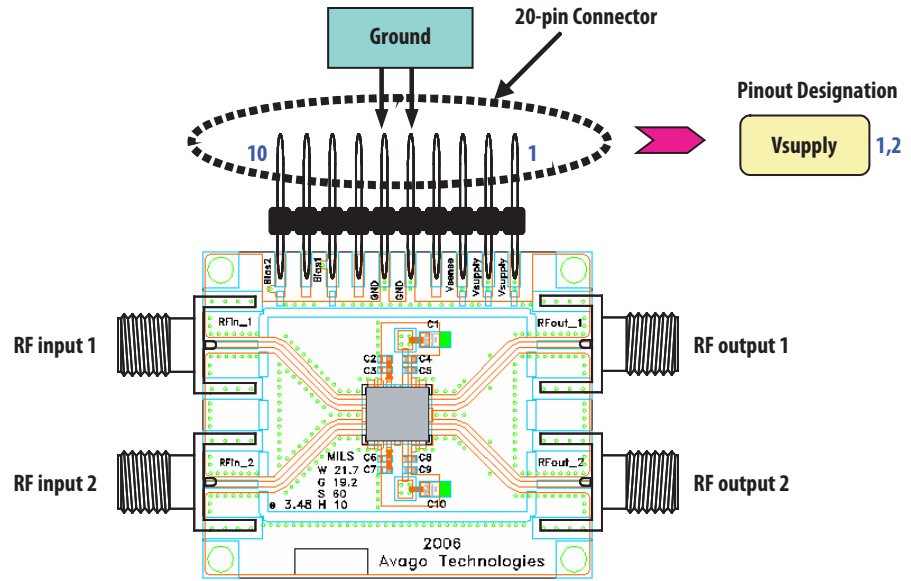

Figure 5. Demo Board Layout Diagram
$T_A = 25^\circ\text{C}$, $V_{dd} = 5\text{V}$ @ $V_{ctrl} = 2.2\text{V}$, RF performance at 2.0 GHz, given for each of the 2 RF paths, measured on demo board (see Fig. 5) unless otherwise specified.
7. Measurements at 2GHz obtained using demo board described in Fig 5.